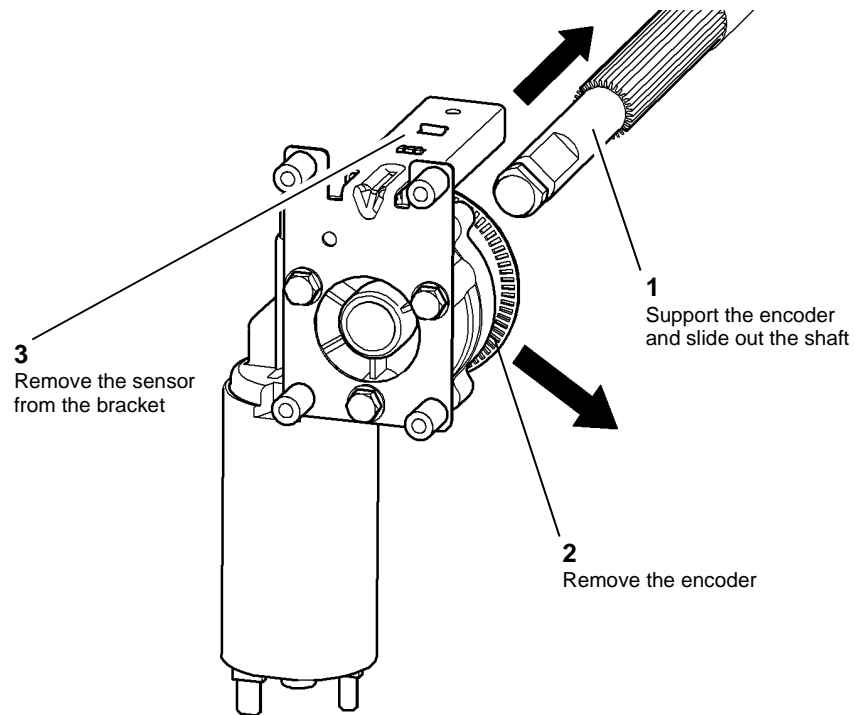

Figure 2 Removing the motor
8. Remove the BM crease blade motor, Figure 2.